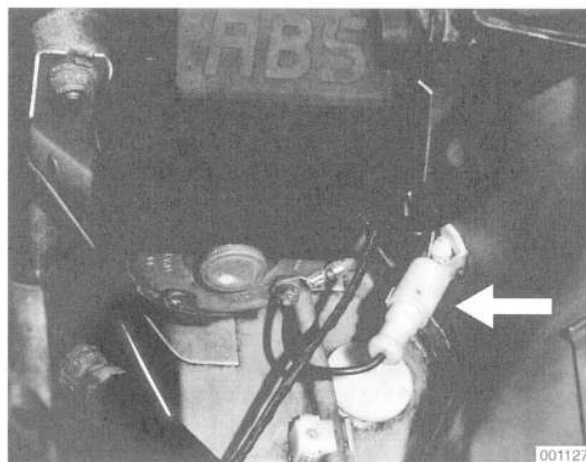

Fig. 20. Front ABS pulse sensor harness connector (arrow).
3. Working in the engine compartment (front wheel sensors) or under the rear seat (rear wheel sensors), disconnect the pulse sensor connector and remove the sensor from the car. See Fig. 20.